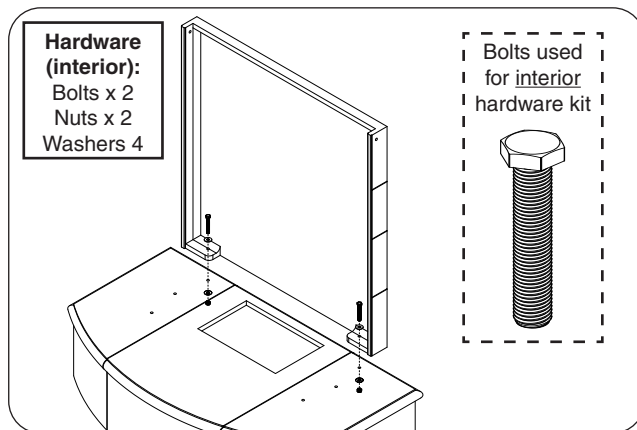

Fig. 23-1 Assemble body - rear wall
1. Place the body rear wall piece on top of the hearth. Carefully align the pilot holes, insert the hardware (interior hardware kit) in the order shown, and only hand tighten at this stage. See Fig. 23-1.